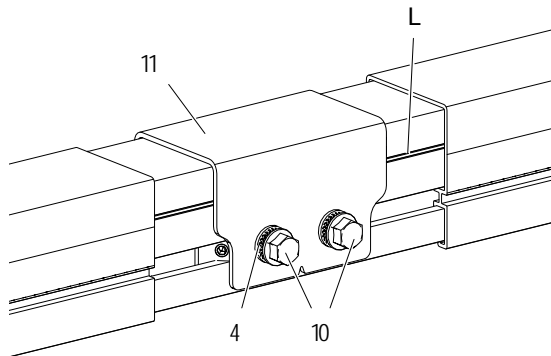
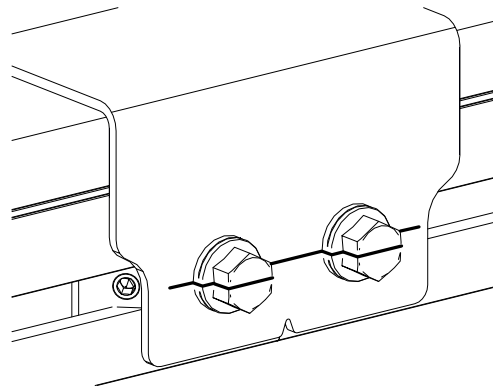

Fig. 32: Screw lock with detent-edged washer
Fig. 33: Mark the screws
- Slide the next ProfiDAT rail (3) into the connector (11).
- Fix the connector with the threaded pins (9) (5 Nm).
- Tighten the four lateral flange screws (10) on the connector (10 Nm) (see Fig. 32). After tightening, mark the screws on the connector (see Fig. 33) to see whether the screws are tightened and have not come loose.